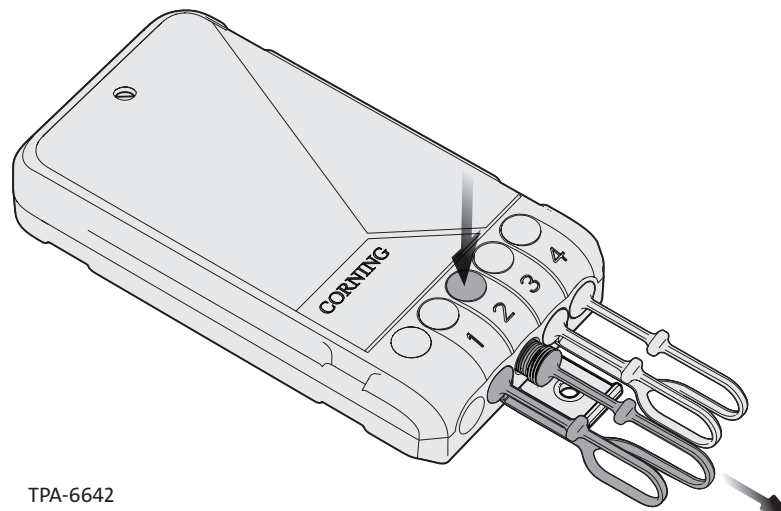

Figure 23
Step 1: Depress the button for the port and pull out the dust plug. Remove the dust cap from the connector (Figure 23).